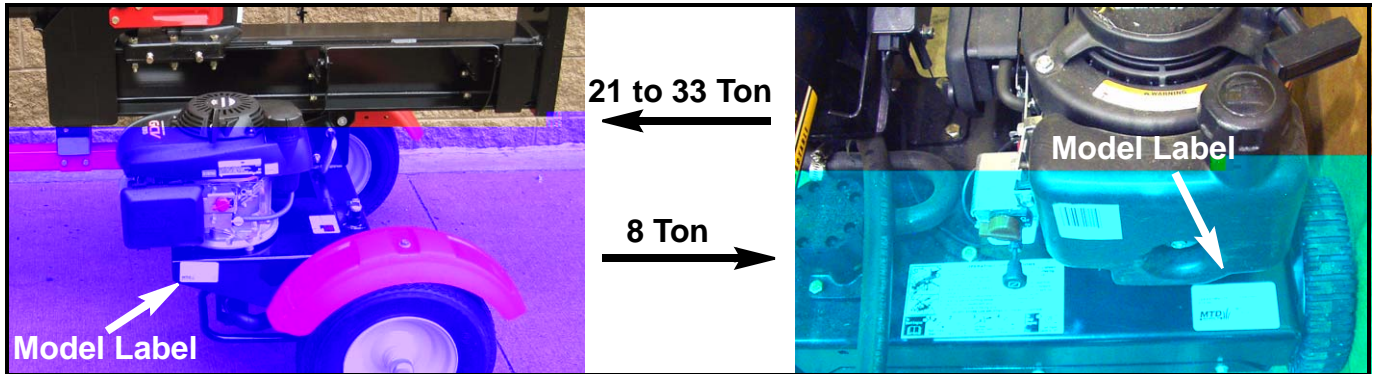

FIGURE 1
1. Locate the model and serial number for your log splitter on the model label. See Figure 1.